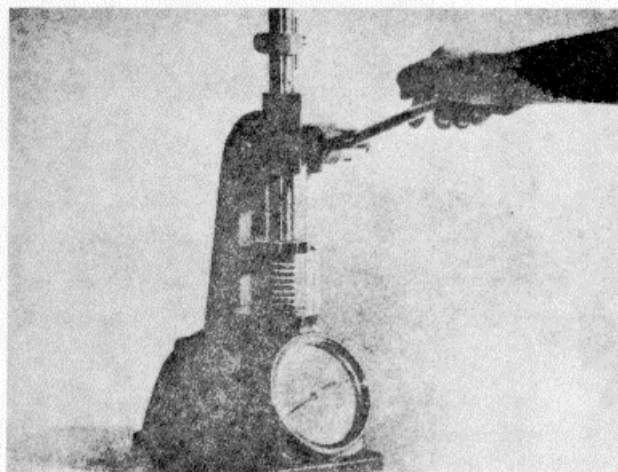

Figure 16H-5. Testing Injector Spring on 3375182 Tool
2. Test the spring tension on the spring tester, 3375182, Figure 16H-5. This spring tester is capable of very accurate measurements of spring lengths and applied load by means of standards and a dial indicator gauge. See Table 16H-1.